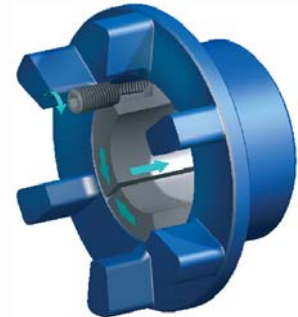

Fig.2
3. Screw in lightly greased or oiled assembly screws. Do not tighten the screws yet (Fig. 2).